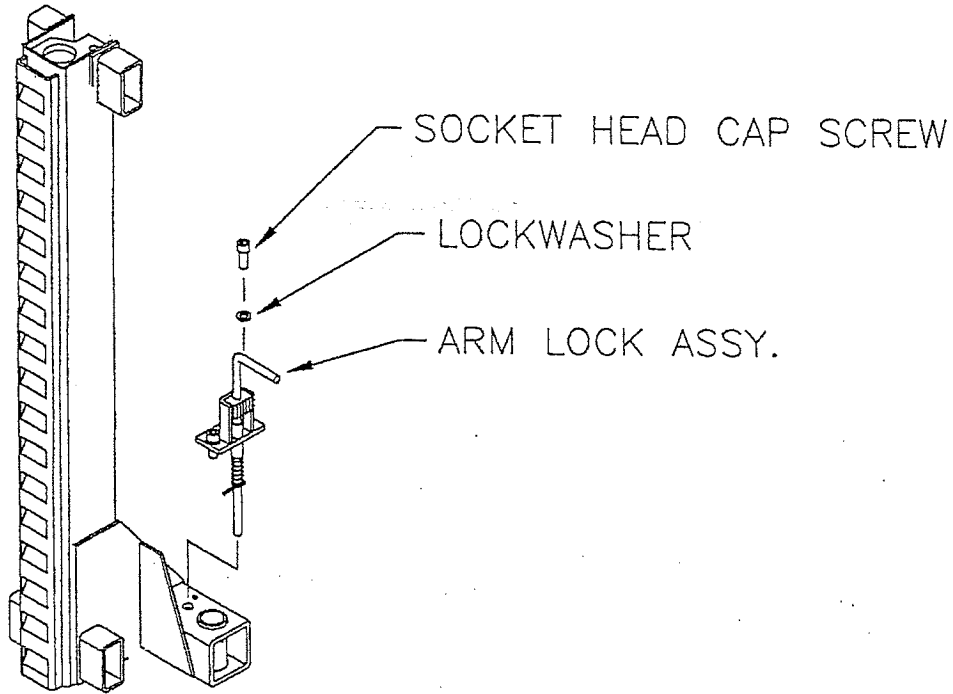

Figure 8 – Arm Lock Installation
Using two (2) 3/8"-16UNC x 1" LG. socket head cap screws, and two (2) 3/8" ID lockwashers, install the arm lock assemblies as shown in Figure 8. Before tightening completely, make sure that the arm lock has full contact with the arm lock gear by pushing it firmly against the arm.